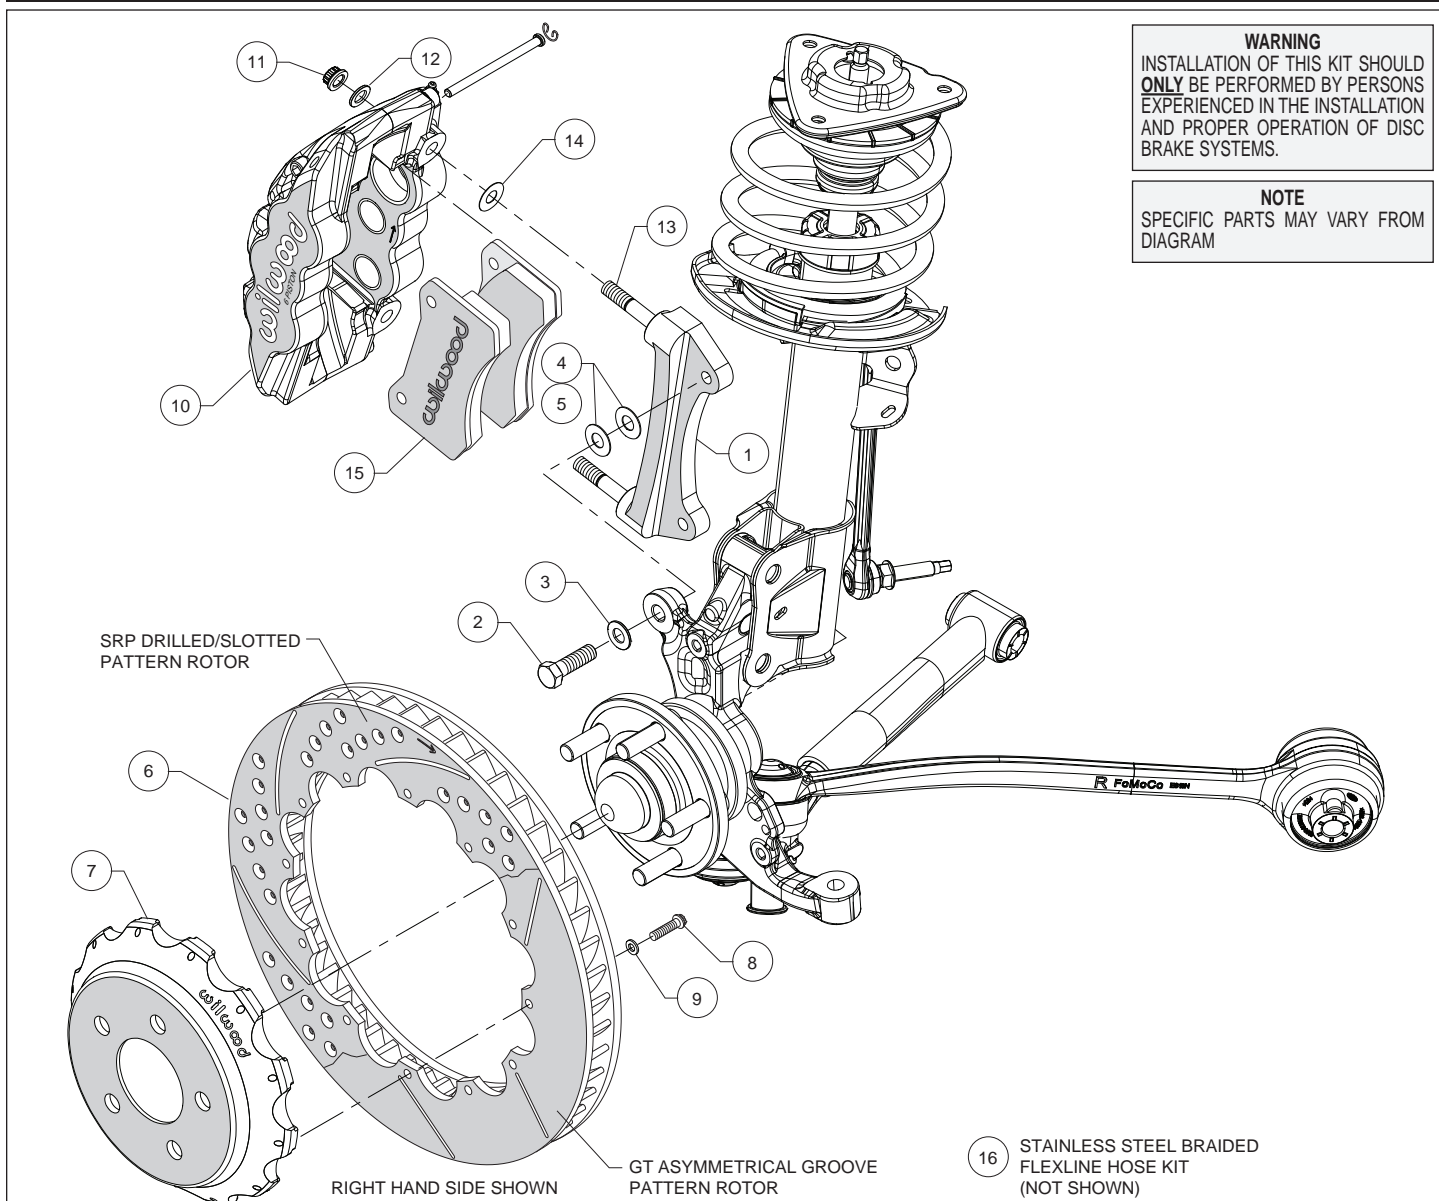
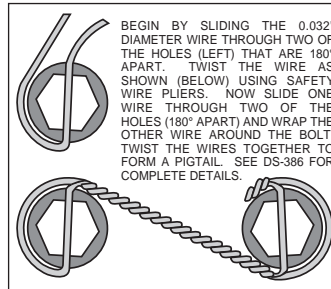

Figure 1. Typical Installation Configuration
Figure 3. Safety Wire Diagram
Assembly Instructions (numbers in parenthesis refer to the parts list and Figure 1 on the preceding pages):
- The caliper mount bracket (1) should initially be installed with clean, dry threads on the mounting bolts. Orient the bracket, as shown in Figure 1 and Photo 1, and install using bolts (2) and washers (3). Initially place two .033" thick shims (4) on each bolt between the bracket and upright, Figure 1. Temporarily tighten the mounting bolts. **NOTE: The bracket must fit squarely against the mount bosses on the upright.** Inspect for interference from casting irregularities, machining ridges, burrs, etc. Later, after the caliper alignment has been checked, the mount bolts will be secured using red *Loctite*® 271.
- Orient the rotor (6) and the hat (7) as shown in Figure 1 and Photo 2. Attach rotor to hat using bolts (8) and washers (9). Using an alternating sequence, apply red *Loctite*® 271 to the threads, and torque to 155 **in-lbs**. For an added measure of security, the bolts may be safety wired using standard 0.032 inch diameter stainless steel safety wire as shown in Figure 3. Refer to Wilwood's data sheet DS-386 (available at www.wilwood.com/Pdf/DataSheets/ds386.pdf) for complete safety wire installation instructions.
- NOTE: This kit contains distinct right and left hand calipers that must be mounted in a specific direction, as described below.** Lubricate the caliper mounting studs (13) with lightweight oil. Initially place one .030" thick shim (14) on each stud between the caliper and the bracket, as shown in Figure 1 and Photo 4. Mount the caliper (10) onto the bracket (1) using lock nuts (11) and washers (12), Figure 1. Temporarily tighten the lock nuts. Ensure that the caliper is mounted so the largest pistons are at the rotor exit end of the caliper, in relation to the direction of the rotor. View the rotor through the top opening of the caliper. The rotor should be centered in the caliper, Photo 5. If not, adjust by adding or subtracting shims (4 and/or 5) between the bracket and the upright. Always use the same amount of shims on each of the two mounting bolts. Once the caliper alignment is correct, remove the bracket mounting bolts one at a time, apply red *Loctite*® 271 to the threads, and torque to 60 ft-lbs.
- Remove the two pad retaining pins from the caliper (10) by carefully popping out the pin retaining clips and sliding out the pins. Insert the brake pads (15) into the caliper from the bottom, Figure 1 and Photo 6. With the friction material facing the rotor, secure the brake pads in place with the pad retaining pins and clips, Photo 7.